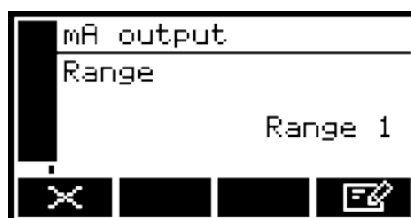

Figure 34 - The mA range screen
3. Use the  and  soft keys to highlight the required gas Range option, then press the  soft key: the mA range screen will then be displayed, as shown in Figure 34.